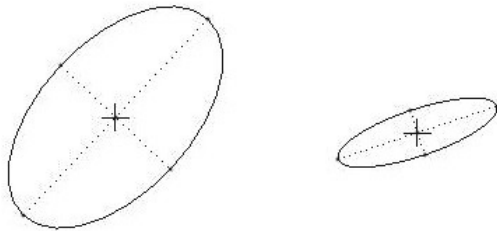

Figure 3-34 Ellipse
Step29: Use  and  to create two ellipses similar to the ones shown in Figure 3-34.